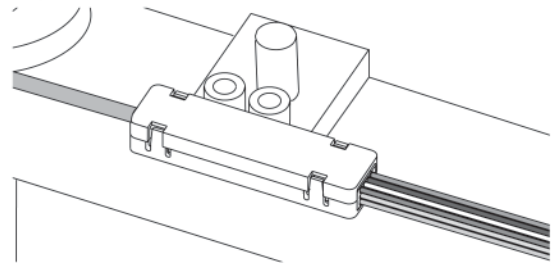

Figure 20
7.9 Align the top of the BTF body with the bottom and hand press them together until the top snaps into place (Figure 20).